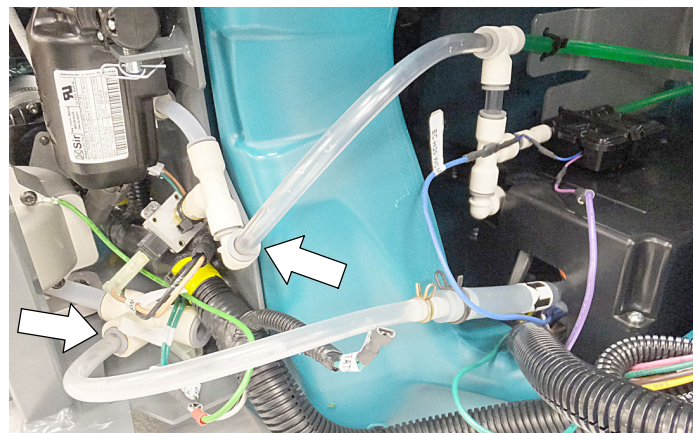

Fig. 34
18. Connect the two hoses from the ec-H2O module to the hose fittings as shown (Figure 34).